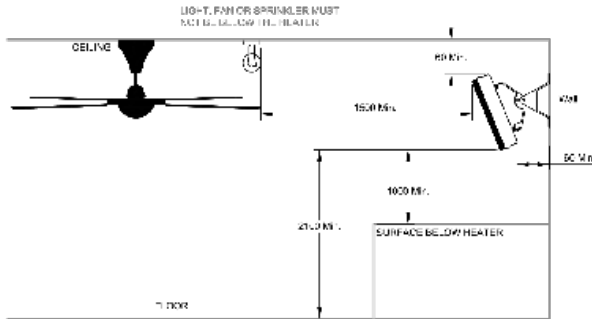

Fig.2
3. According to Figs. 2, 3, 4, select the heater installation place on the ceiling or ceiling structural elements with observation of minimum distances from objects and minimum distance from the floor.